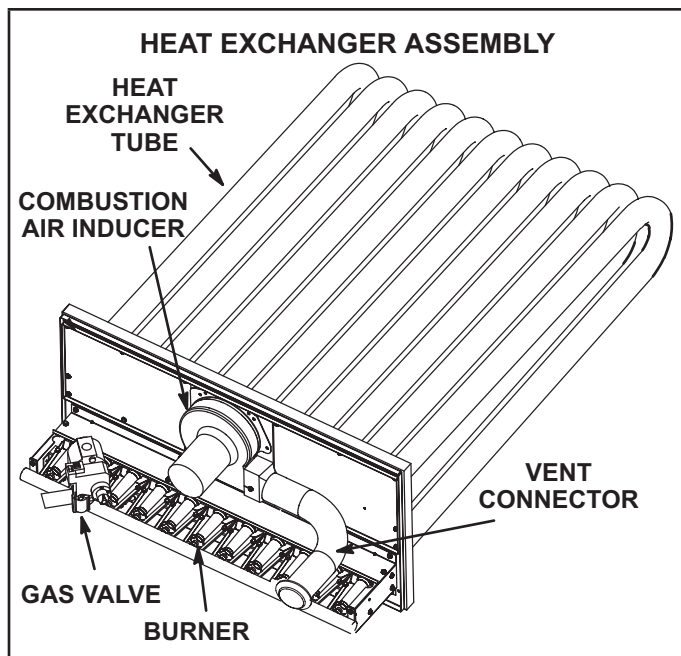

FIGURE 29
- 3 - Remove and retain screws securing combustion air inducer to flue box. Remove vent connector. See FIGURE 29.